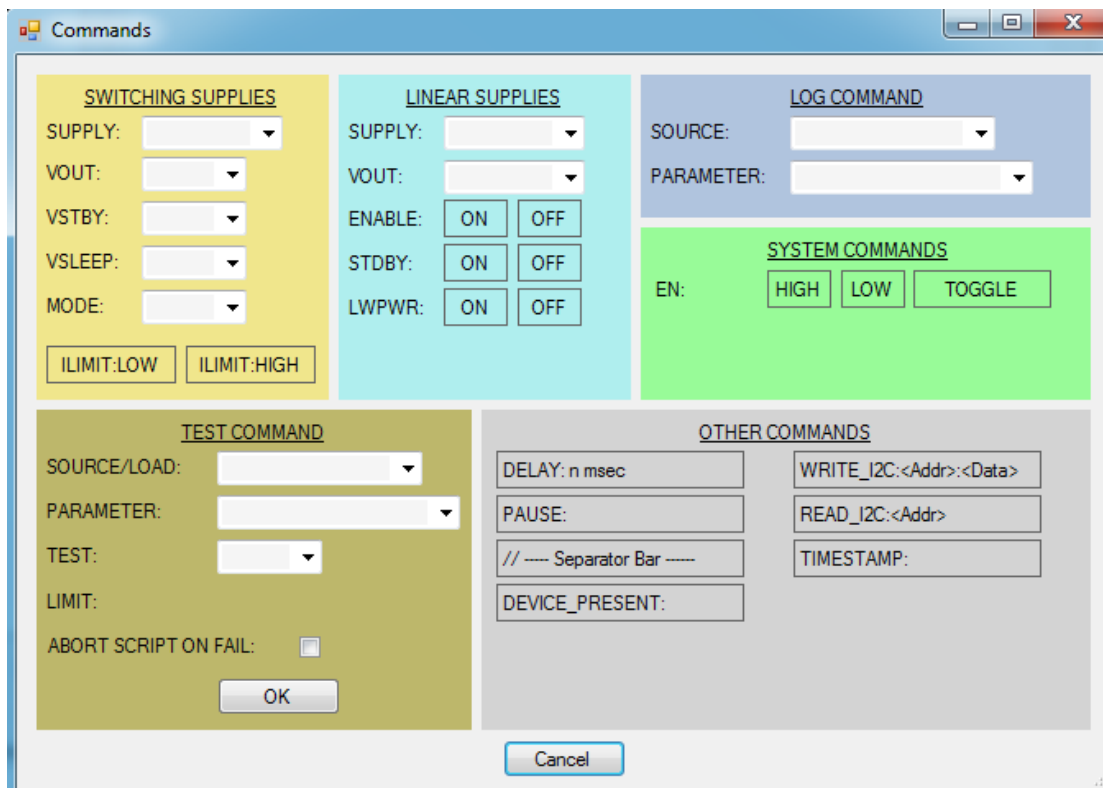

Figure 20. Command Selector Window
- **Commands:** Displays a pop-up window shown in Figure 20, with a graphical set of commands to add to the script.
Proceed by manually writing the desired commands or use the **Command** button to display a graphical command selector in a new window, as shown in Figure 20.